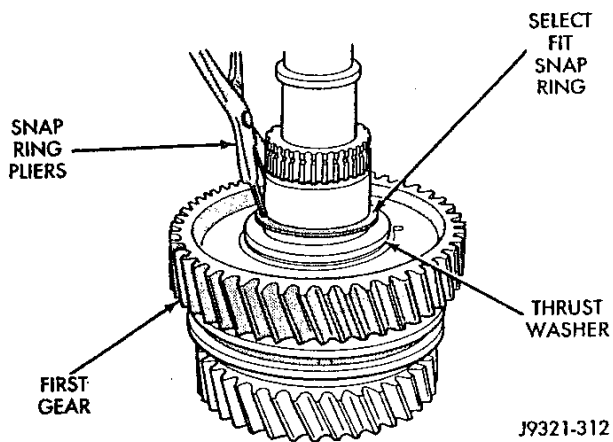
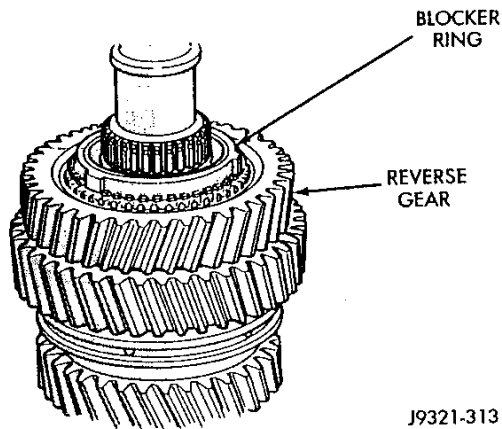

Fig. 46 Installing First Gear Snap Ring
Fig. 47 Reverse Gear And Blocker Ring Installation
(15) Install first gear snap ring (Fig. 46). Do not overspread snap ring to install it. Also be sure snap ring is fully seated in shaft groove. Tap ring into place with punch if necessary.
(16) Install bearing in reverse gear.
(17) Install reverse gear on mainshaft (Fig. 47).
(18) Install blocker ring in reverse gear (Fig. 47).